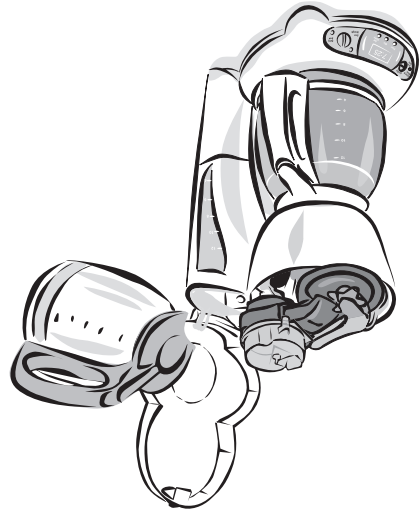

Figure 7
4. Pour the water into the water reservoir. See Figure 7. Close the lid and place the empty decanter onto the warming plate.